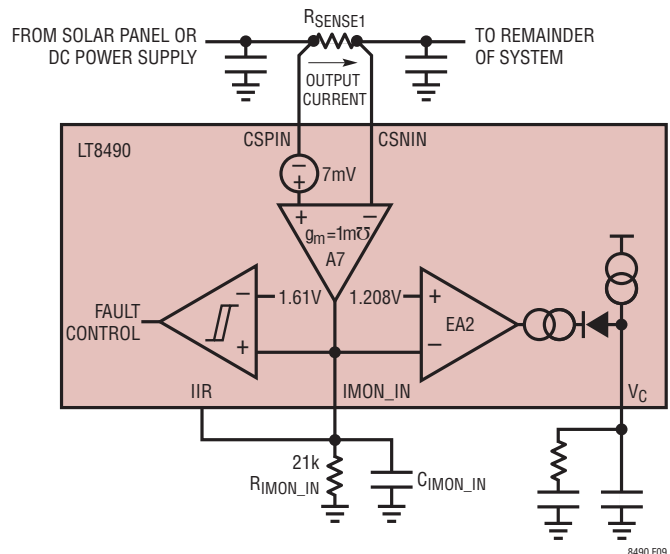

Figure 9. Input Current Regulation Loop
In addition, note that the LT8490 uses the same circuit (shown in Figure 9) to measure the input current as to limit it. The input current is measured by an A/D conversion of the  $IIR$  pin voltage which is connected to  $IMON\_IN$  and is proportional to input current. The digitized input current is used to locate the maximum power point of the solar panel. Setting a higher input current limit reduces the resolution of the digitized reading of the input current. Avoid setting the input current limit dramatically higher than necessary, as this may affect the accuracy of the maximum power point calculations.
**SETTING THE INPUT CURRENT LIMIT:** The input current is sensed through  $R_{SENSE1}$  as shown in Figure 9. The current through  $R_{SENSE1}$  is converted to a voltage on the  $IMON\_IN$  pin according to the following equation: